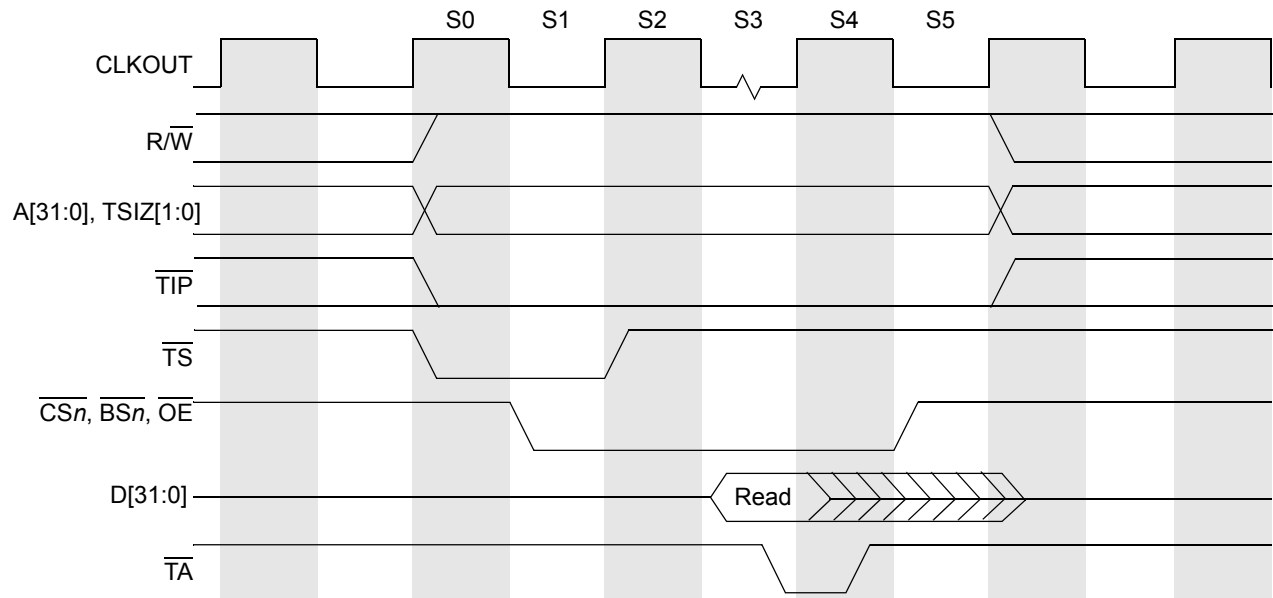
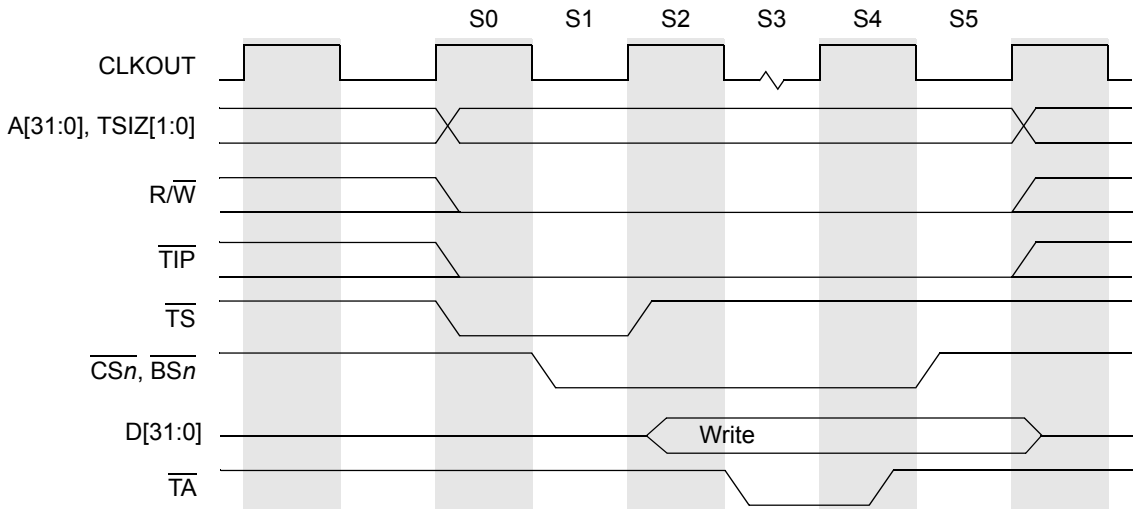

**Figure 17-6. Basic Read Bus Cycle**
Figure 17-8. Basic Write Bus Cycle
3. The last clock of the bus cycle uses what would be an idle clock between cycles to provide hold time for address, attributes and write data. Figure 17-6 and Figure 17-8 show the basic read and write operations.
The read cycle timing diagram is shown in Figure 17-6.
The write cycle timing diagram is shown in Figure 17-8.